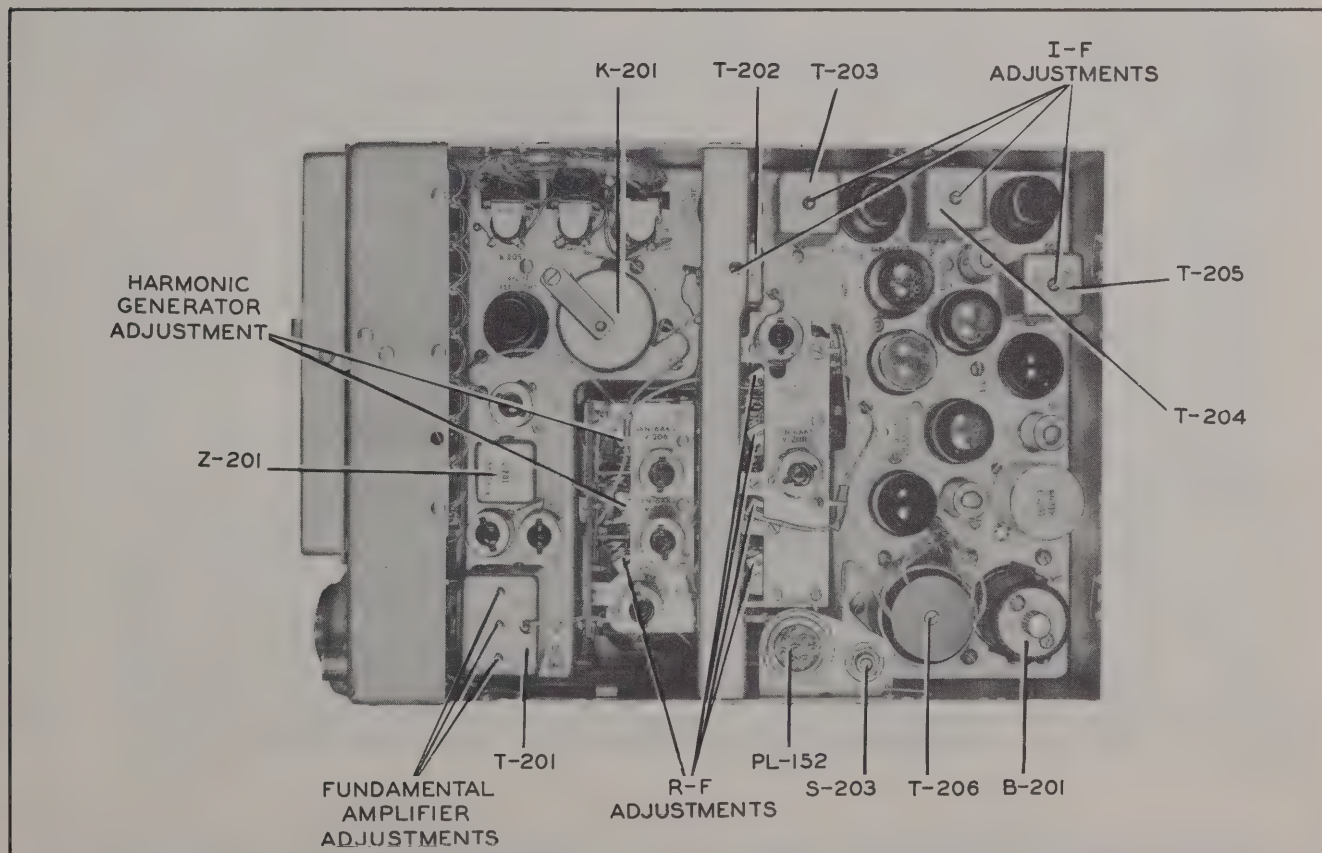
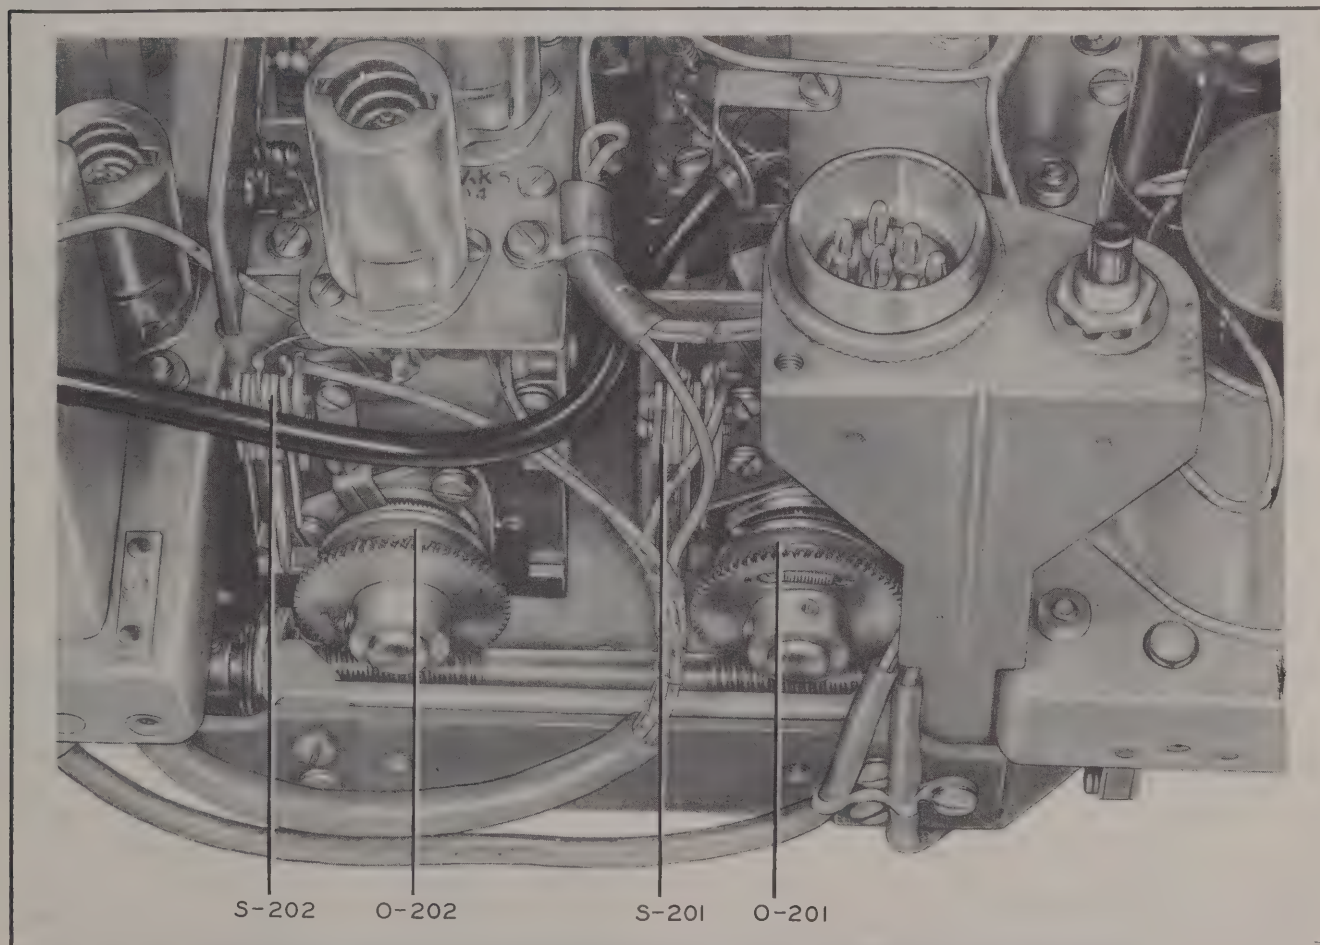

Figure 2-6. Radio Receiver R-77/ARC-3 — Top View Showing Points of Adjustment
Figure 2-9. Radio Receiver R-77/ARC-3 — Variable Capacitors Showing Pointer, Switches and Cam Assembly
(1) Interconnect Radio Test Set AN/ARM-1 and the radio receiver as outlined in paragraph 1c, this section.
(2) Open the crystal compartment door and insert a Crystal Unit CR-1A/AR of the radio test set in sockets "A," "B" and "C" if the original crystals used in the receiver were removed previously.
(3) Set the thumbwheel for each of these channels to any harmonic of the crystal for that channel (11th through 18th harmonic).
(4) Screw Cap MX-506/ARM-1 over motor control button S-203 (adjacent to the PL-152 receptacle) so that the button is locked down. (See fig. 2-6.)
(2) Connect the output meter to the "TEL." jack on the control box of Radio Test Set AN/ARM-1 or to the "LO" terminal on the radio receiver output transformer, T-206. (See fig. 2-6.) If the output meter is to be connected to the control box, a suitable plug will also be required.
(2) Adjust the signal generator output to the smallest value which will give a reading on the output meter. If no output is obtainable turn all eight i-f transformer adjusting screws to the maximum counterclockwise position. Then roughly align each stage, feeding the input into the grids of the third, second and first i-f tubes successively (tubes V-212, V-211 and V-210). (See figs. 2-6 and 2-7.)
(3) With the 12-megacycle input signal fed to the first detector grid, adjust the screw on top of fourth i-f transformer T-205 for the *maximum* reading on the output meter. (See figs. 2-6 and 2-8.)
(1) Turn all three adjusting screws, on top of fundamental amplifier transformer T-201, to the maximum counterclockwise position. (See figs. 2-6 and 2-8.)
(2) Remove the crystal unit, marked "8727.000 kc," from channel "A" and insert the crystals marked "8000.000 kc," "8100.000 kc," "8727.000 kc," and "8458.823 kc" in channels "A," "B," "C," and "D" respectively.
(3) Depress channel "B" push button.
(4) Turn the selector switch on the radio test set to position "1."
(5) Turn either of the two outside adjusting screws on top of the fundamental amplifier transformer T-201 two or three turns in a clockwise
direction. Then turn the other outside adjusting screw two or three turns in the same direction. Repeat these operations consecutively until the *maximum* meter reading is obtained. (See fig. 2-6.)
If the procedure in (5) was necessary, the frequency dial must be turned in a *counter-clockwise* direction to "156." The pointer at the end of the 3 section variable capacitor should indicate the red portion of the cam as the variable capacitor turns once for three revolutions of the calibrated dial. (See fig. 2-9.)
(7) Turn the selector switch on the test meter to position 3.
(8) Adjust trimmer capacitors C-219D and C-219E for maximum reading on the test meter. Use the alignment tool provided with the radio test set. (See figs. 2-6 and 2-8.)
(9) Remove Shorting Plug U-30/ARM-1 and replace relay K-201.
(6) Adjust the trimmer capacitors C-247E, C-247F, C-247G, C-247H and C-219F for the *maximum* reading on the output meter. Repeat these adjustments until no further improvement can be obtained. (See figs. 2-6 and 2-8.)
(7) Set the channel "A" thumbwheel on the front panel of the radio receiver to 100 megacycles. Depress the channel "B" push button and immediately push the channel "A" push button again. Depress the motor control switch S-203 and see that the frequency dial stops at 100 megacycles.
(8) If inaccurate tuning results, repeat each step of the r-f alignment procedure, outlined in this paragraph.